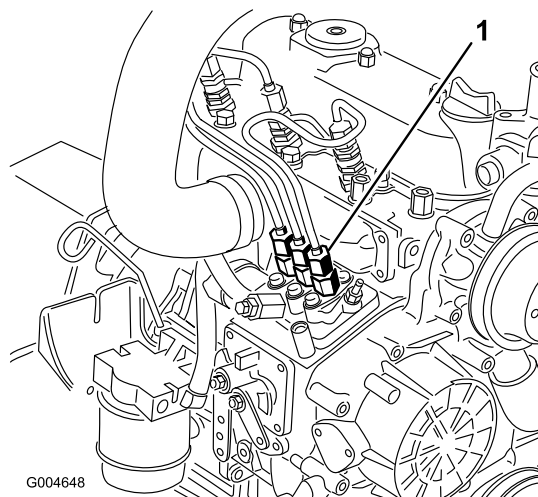

Figure 63
1. Place a rag under the pipe connection coming from the injection pump to the No. 1 injector nozzle as illustrated in Figure 63.